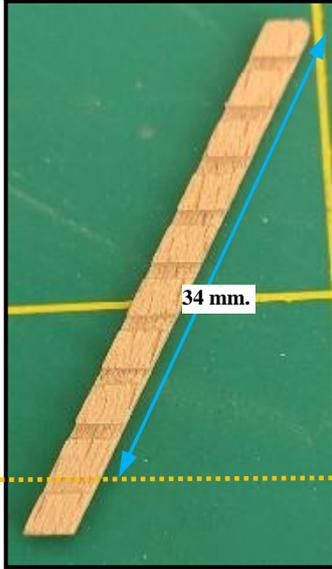

Figure 67: String Shortening
Masts were held in position at each deck level by a series of mast **wedges** or *partners* forming a **collar** between the decking and the mast itself (Fig. 67). On the upper deck levels, this collar was usually covered by a canvas fairing, the mast **coat**.
- usually made from one piece of timber (Fig. 67). In many builds observed, this ring was left in its natural state and yet Fig. 67 portrays the necessary & historical water-proofing of this feature, so at least it should be **painted black**.